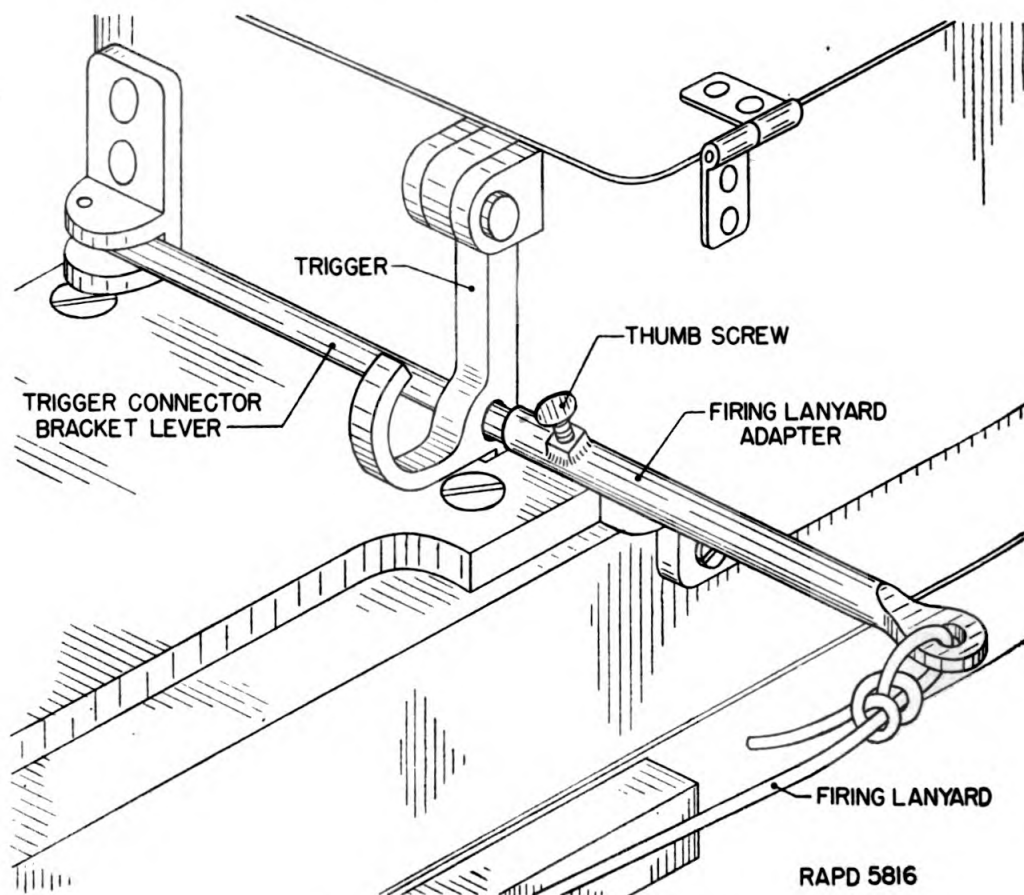

FIGURE 136.—Firing lanyard adapter.
(1) *Firing lanyard adapter* (fig. 136).—This adapter is inserted over the trigger connector bracket lever of the 37-mm gun for firing the gun at a safe distance. A thumbscrew is provided for securing the adapter to the lever. The foot-firing mechanism lever which actuates the trigger connector bracket lever will have to be removed for installation of the firing lanyard adapter.